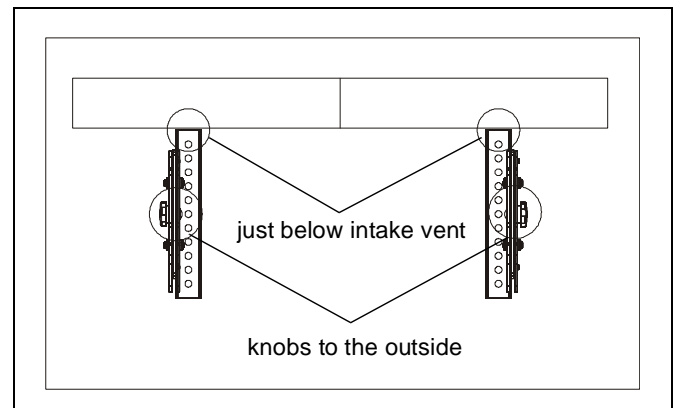

Figure 7
3. Place left and right interface brackets (B and C) on the back of the display, with the tension knob on each bracket facing toward the outside of the television. Place top of interface brackets just below intake vent on back of display. (See Figure 7)